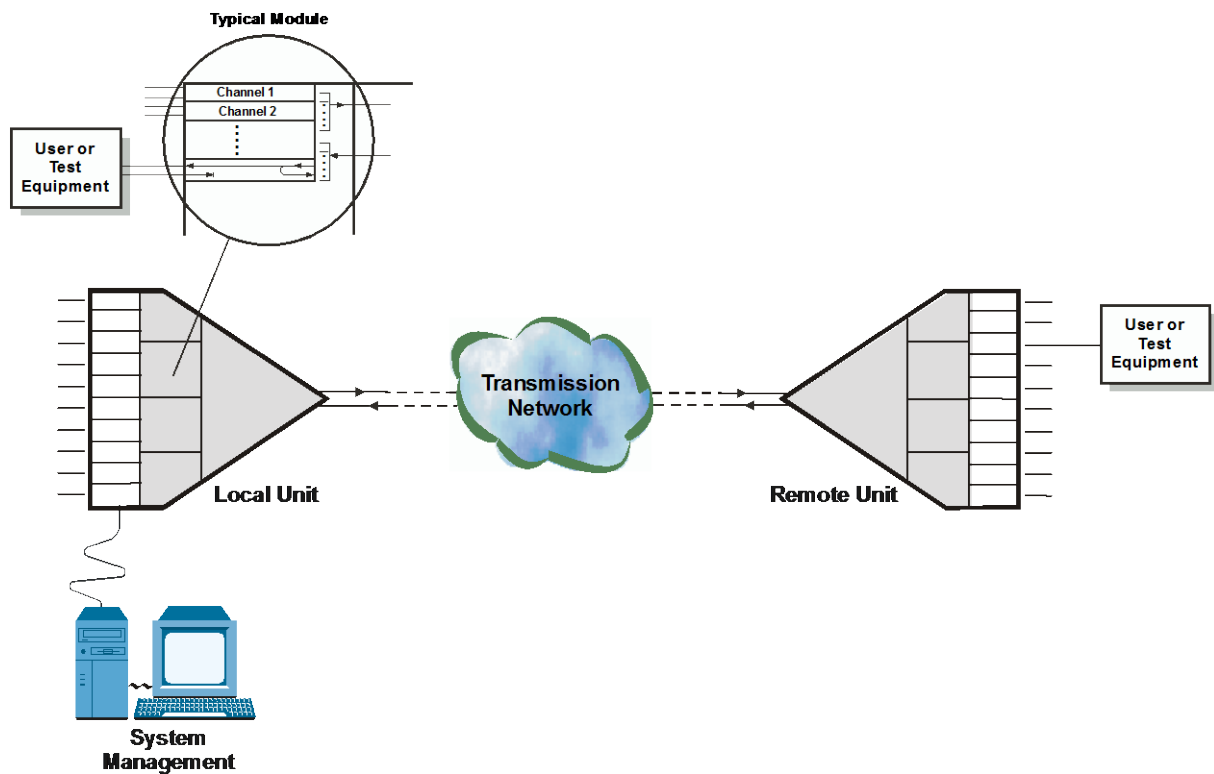

Figure 6-11. I/O Module, Remote Loopback on Individual Channel
- A remote loopback on an individual channel (*Figure 6-11*) allows the remote side to check the complete transmission path down to the local channel circuits. It is a rapid test when everything seems to be working OK.